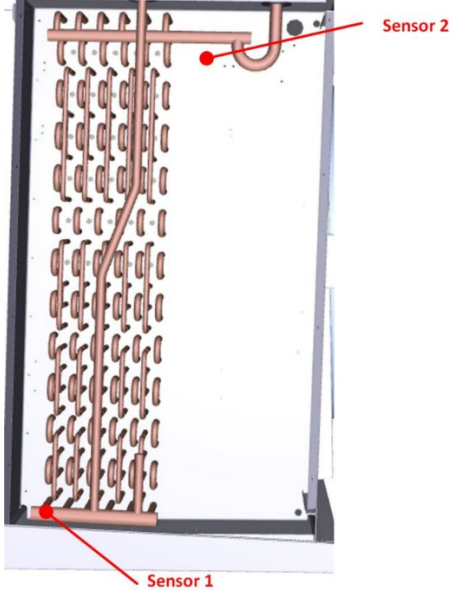

Figure 9: arrangement of defrost sensors, recommended execution with 2 sensors
I. **Two defrost sensors – recommendation – (Figure 9)**